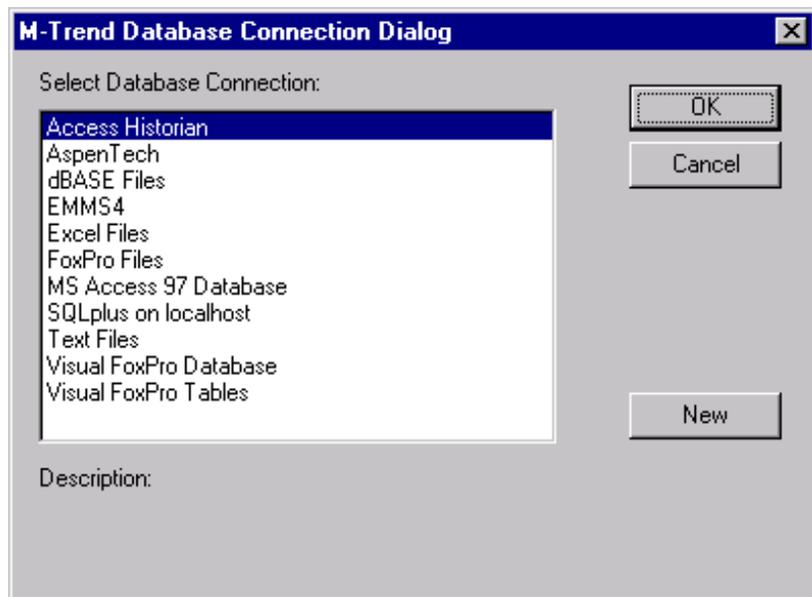

Figure 3-2: M-Trend Database Connection Dialog Screen
1. On the Windows Start menu, select Programs > Johnson Controls > M-Trend. The M-Trend Database Connection Dialog screen appears (Figure 3-2).